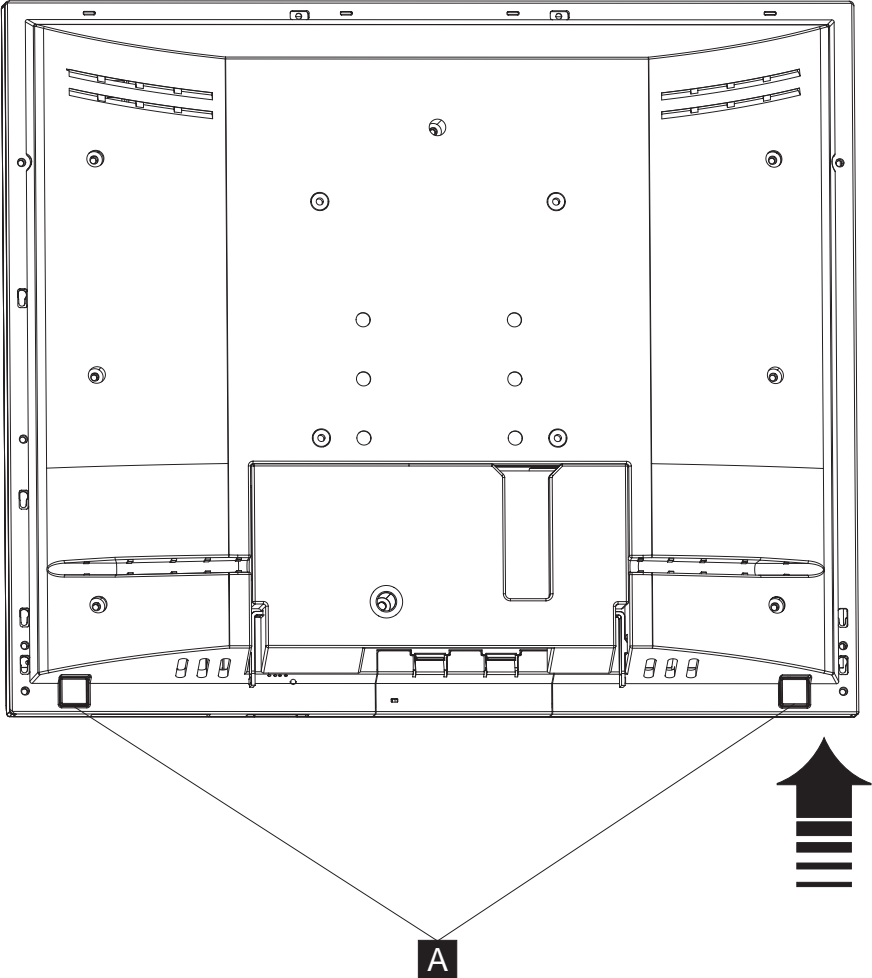

Figure 29. Bezel buttons
4. Press the two buttons on the backside of the display tablet to unlock the bezel, and lift upward until the bezel stops. See **A** in Figure 29 on page 57. Then pull the bezel away from the tablet.